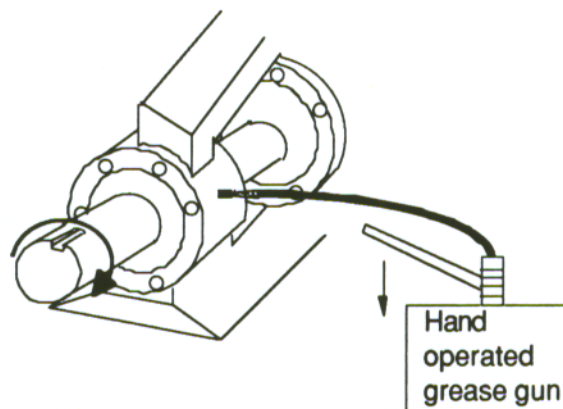

Figure 11. Re-lubricating bearing
3. Remove the plug(s) from the bearing housings and temporarily install one (1) alemite type grease fitting.
4. With a hand operated grease gun (see Figure 11), pump grease into the bearing, via the fitting, while slowly turning the shaft by hand. The old, used grease will be pushed out of the bearing and replaced with fresh new grease. Continue this process until all of the old grease is expelled. Larger pumps (CNN2000-CNN4000) have two (2) tapped holes in the bearing housing. By utilizing the first one, then the other, for replenishing the grease, the process is faster and assures a more uniform distribution of the grease.